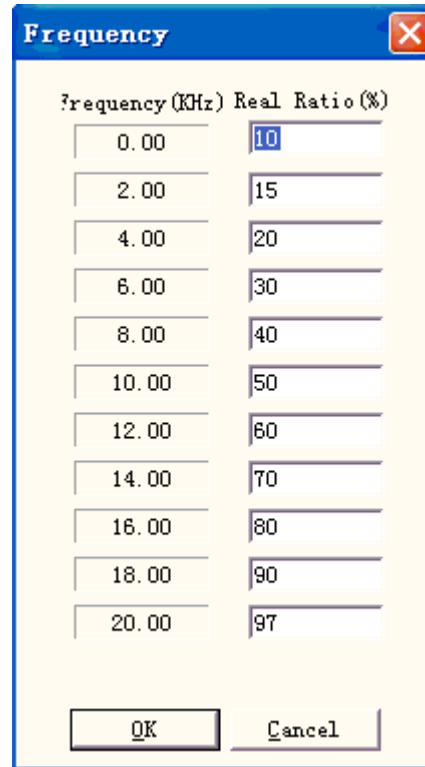

Figure 10-27 Frequency Map Dialog Box
**Frequency Mapping:** This is frequency emendation function, used to set the frequency percentages of the customized and the corresponding one, as Figure 10-27 shows.